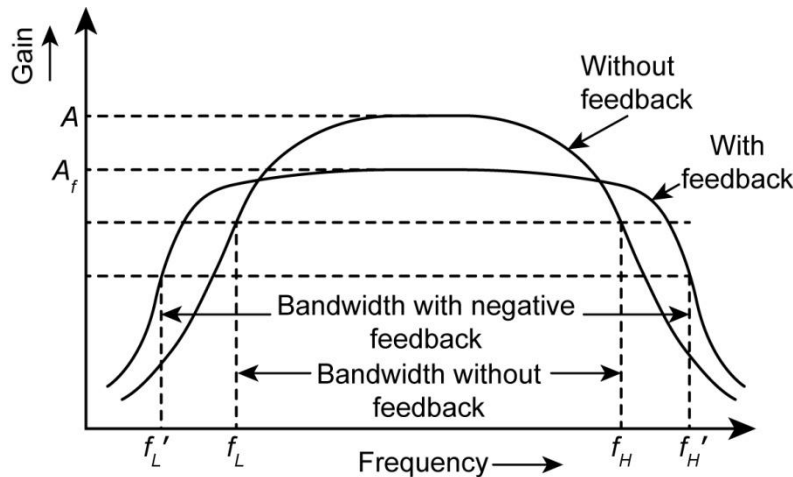

Fig. 10.20: Frequency response of negative feedback amplifier.
In Sec. 10.3.2, we discussed the frequency response of an amplifier. The difference $(f_2 - f_1)$ is called the bandwidth (BW) of the amplifier. For an amplifier, the product of gain and BW , called **gain-bandwidth product**, remains constant i.e. $A \times BW = \text{constant}$. Since the gain of the amplifier is decreased with negative feedback, to get the product $A_f \times BW$ same as before, BW has to increase. In other words, the bandwidth of the amplifier increases with negative feedback. Fig. 10.20 shows the frequency response of the amplifier both, with and without feedback.